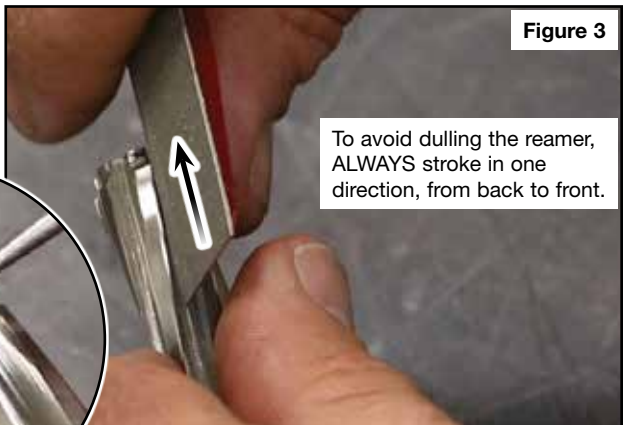

Figure 3
- Place the tool along one cutting edge of the reamer and draw it forward smoothly three to four times (**Figure 3**).